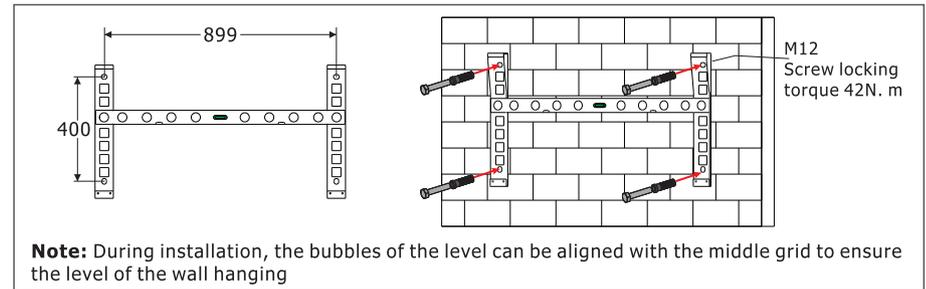

Figure 3.4-1 Install Inverter hanging plate
Step 1: Please use the mounting bracket as a template to drill 4 holes in the right positions with a 14mm drill (14mm in diameter, and 62-70mm in depth). Use a proper hammer to fit the expansion bolt into the holes. Then, screw out the nuts of the expansion bolts, align the holes of the mounting bracket with the 4 expansion bolts, and then push in the mounting bracket, tighten the nuts of expansion bolts. The installation of inverter support is shown in Figure 3.4-1